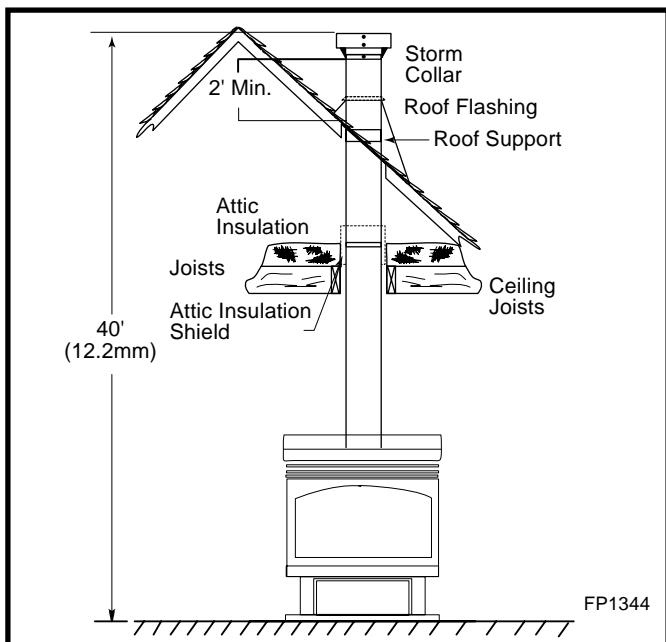

Fig. 26 Typical straight up installation.
- The minimum height of the vent above the highest point of penetration through the roof is 2 feet. (Fig. 26)**
10. Add additional vent lengths for proper height. (Fig. 26)